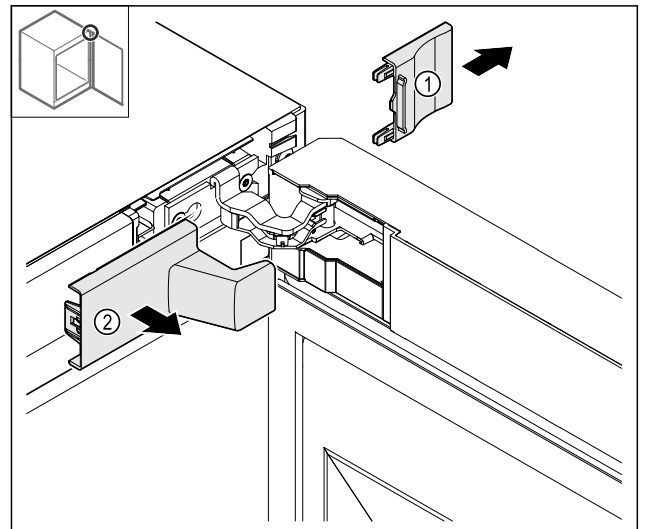

Fig. 14
- Lift off the cover Fig. 14 (1) and then remove Fig. 14 (2).